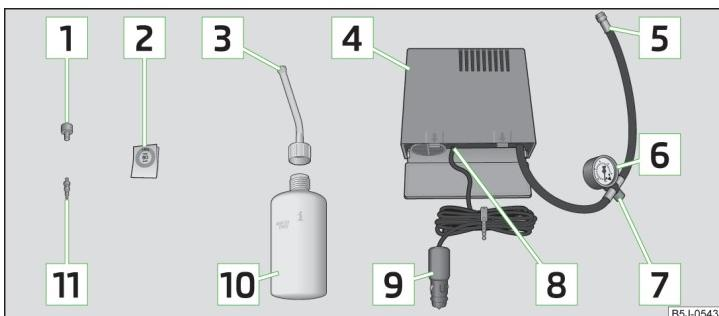

Fig. 145 Principle sketch: Components of the breakdown kit
Components of the breakdown kit » Fig. 145
- ▶ Stick the sticker [2] » Fig. 145 on page 162 on the dashboard in the driver's field of view.
- Shake the tyre inflator bottle **10** » Fig. 145 on page 162 vigorously several times.
- Screw the air compressor tyre inflation hose **5** » Fig. 145 on page 162 firmly onto the tyre valve.